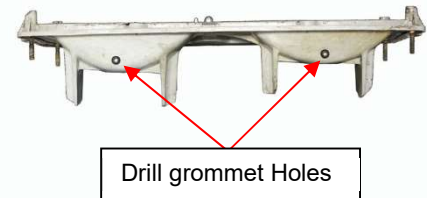

Figure 2
2. Drill 2 – 5/16" holes on the inner surface of the flat section of the bulb socket holes. (See Figure 2) The exact location of each hole is not critical. Then install provided rubber grommet into the drilled hole. One method to simplify installation is to pinch grommet, insert protruding edge into the hole, then use a small flat blade screwdriver to push/work the remaining edge through the hole.